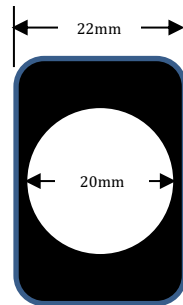

**Figure 3: Alternate switch location for 1794, Platinum and some Limited models.**
11. For 1794, Platinum, and some Limited models, there are no blank switch covers available. A suggested alternate location for the switches is shown in Figure 3. If switches are installed here, there may be insufficient clearance for the included spade terminals to fit. The switch harness wires may need to be soldered directly to the switch lugs.